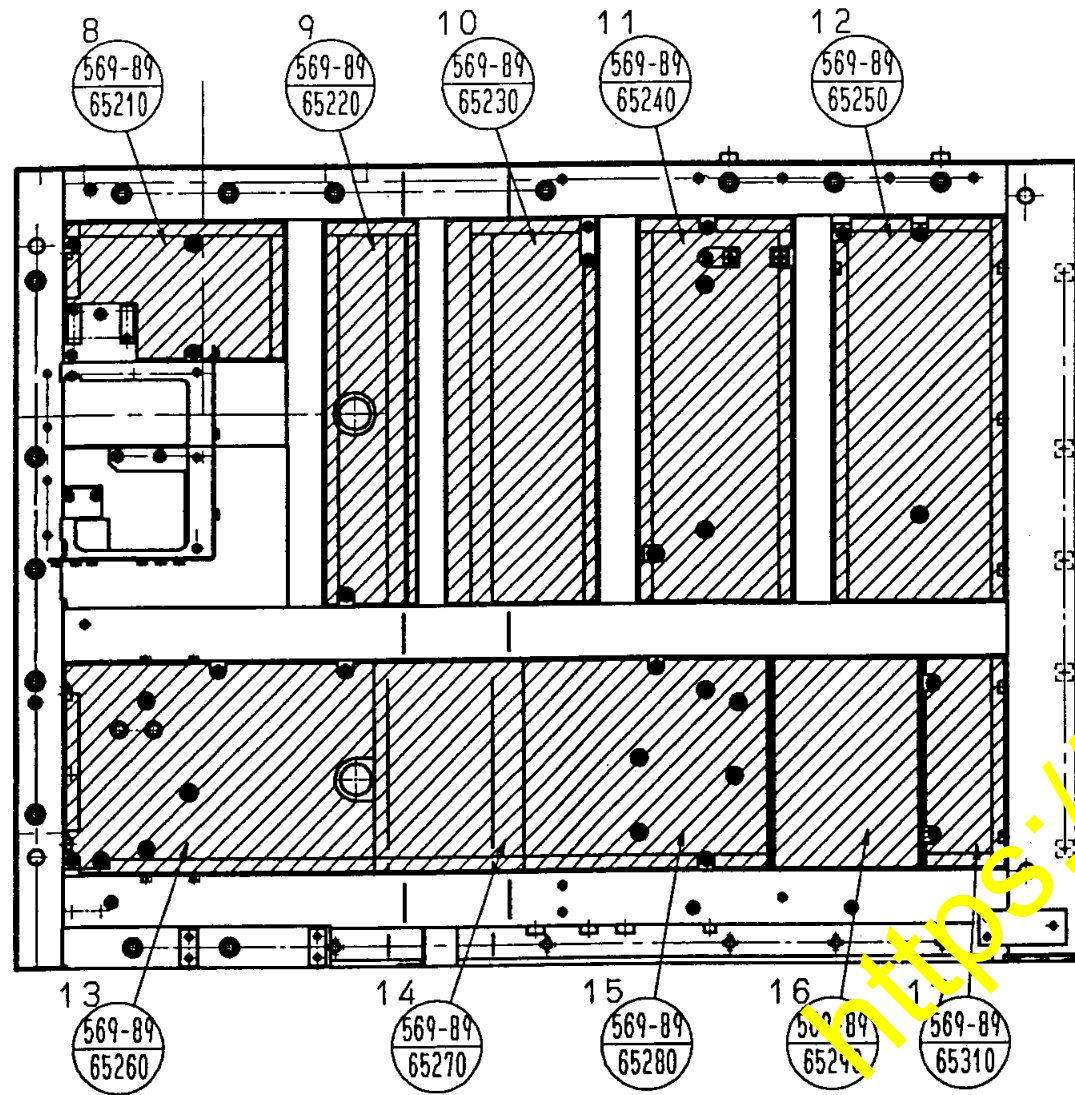
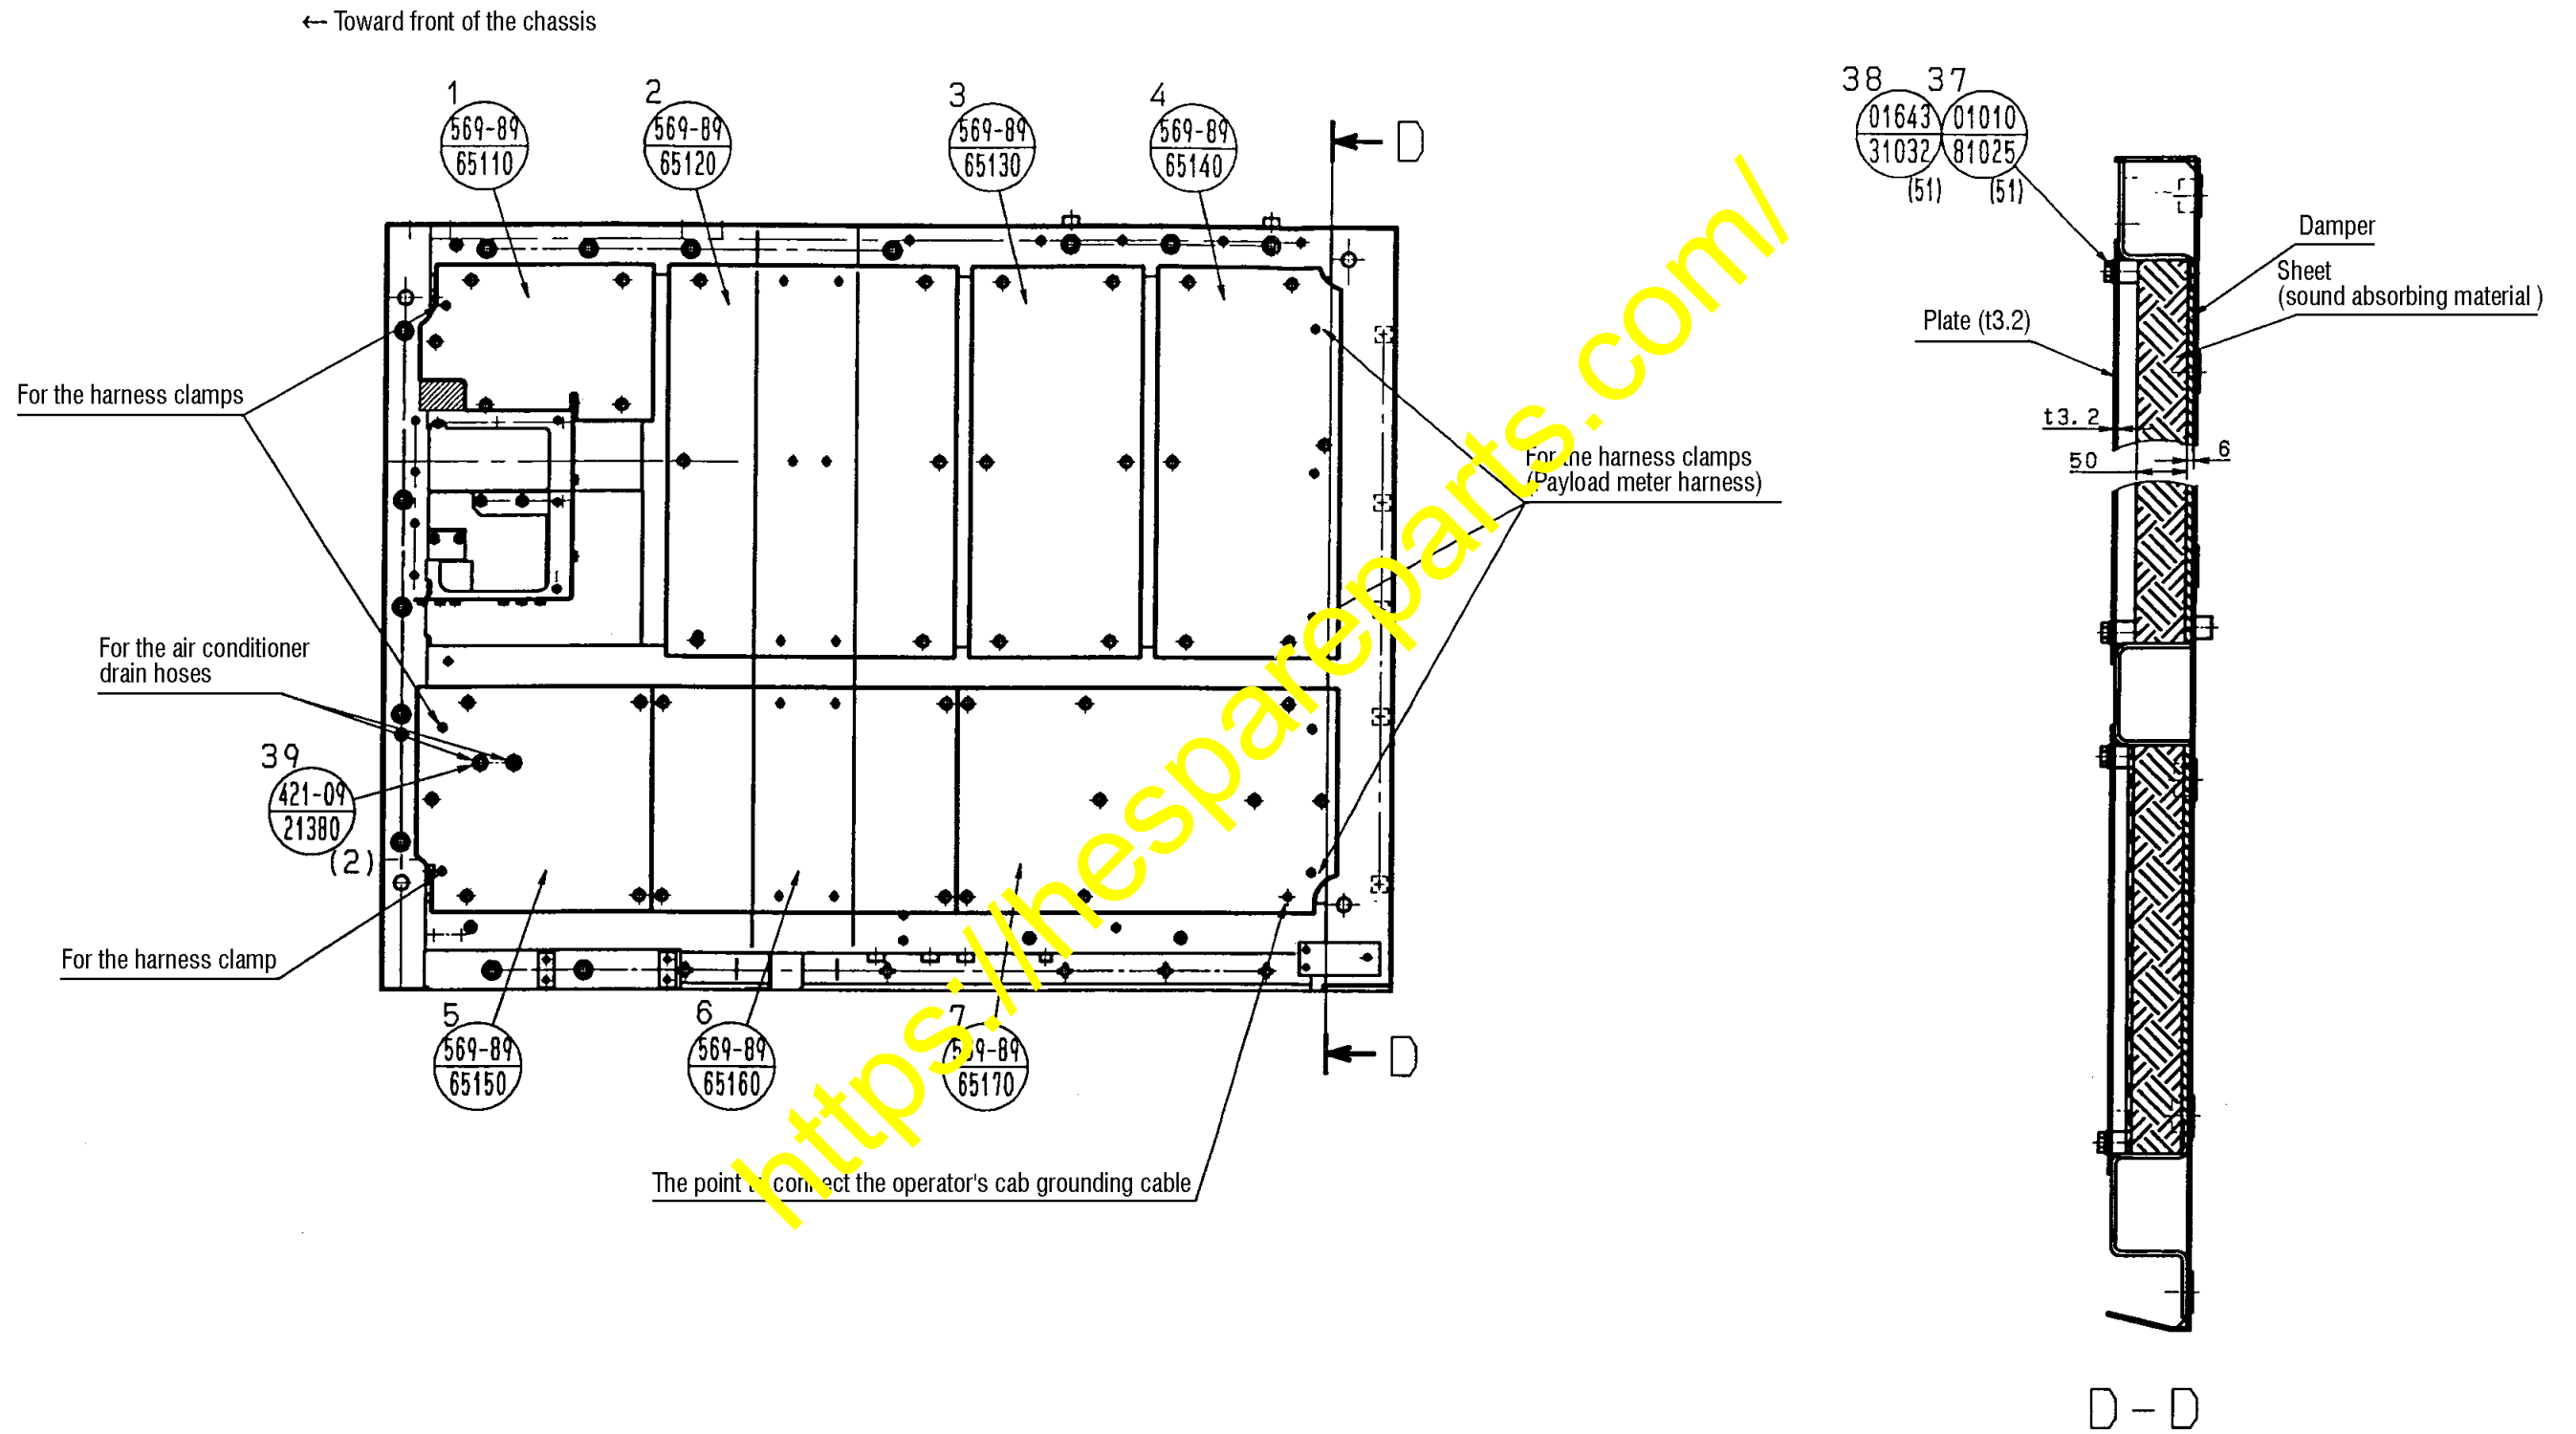

Fig. 6 (Drawing for installation of the dampers: The above drawing is a bottom view, when looked up from underneath.)
Fig. 8 (Drawing for installation of the plates: The above drawing is a bottom view, when looked up from underneath.)
(1) Installing the prepared parts to the bottom surface of the operator's cab floor (Refer to Fig. 6 thru Fig. 8.)